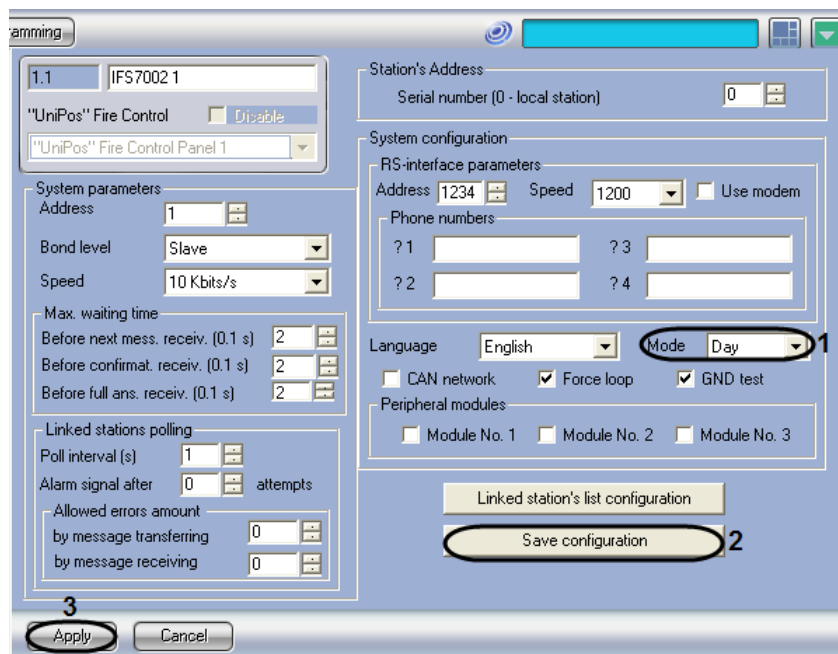

Fig. 3.3—3 Modes of operation of the IFS7002 Fire Control Panel
1. Go to the settings panel of the “IFS7002” object (Fig. 3.3—3).
2. From the “Mode” drop-down list select the required mode of the “IFS7002” FCP operation (see Fig. 3.3—3, 1)
3. To apply the settings to the FCP you must click the “Save Configuration” button (see Fig. 3.3—3, 2)